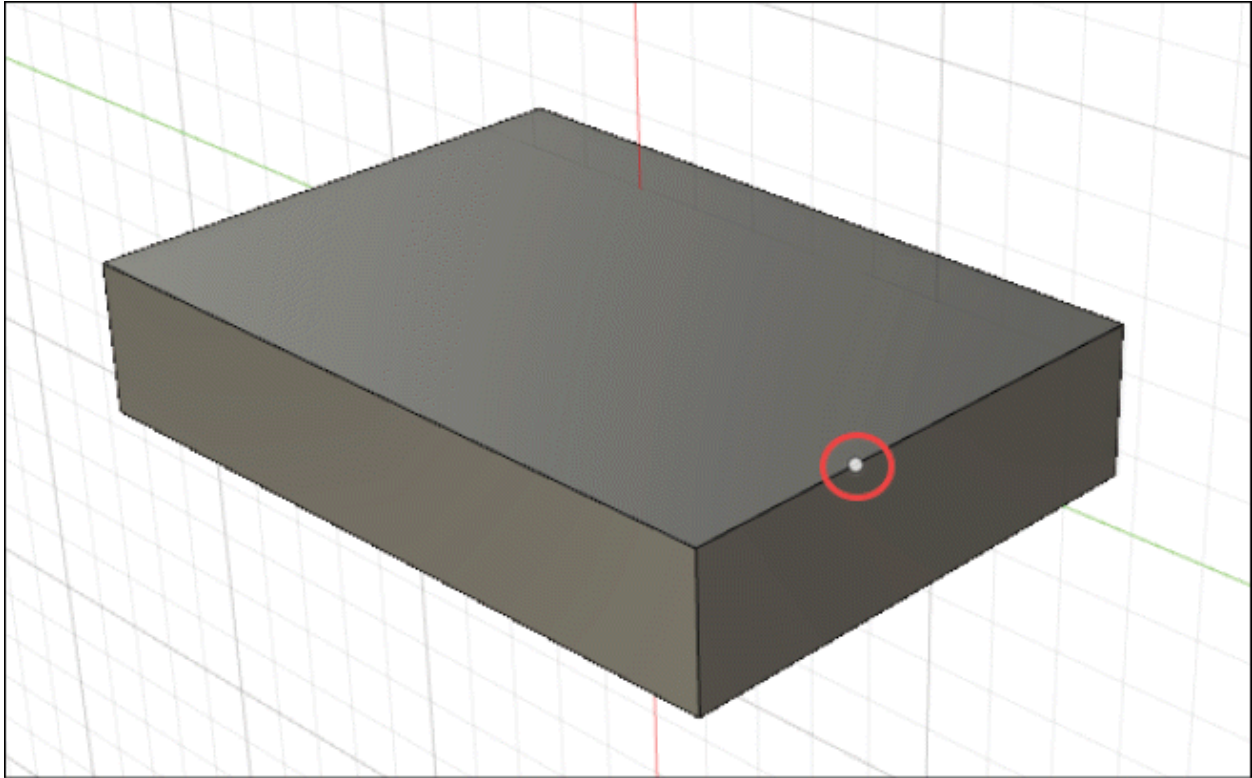

Figure-143. Point along path created
- After specifying the parameters, click on the **OK** button from **POINT ALONG PATH** dialog box. The point will be created; refer to Figure-143.